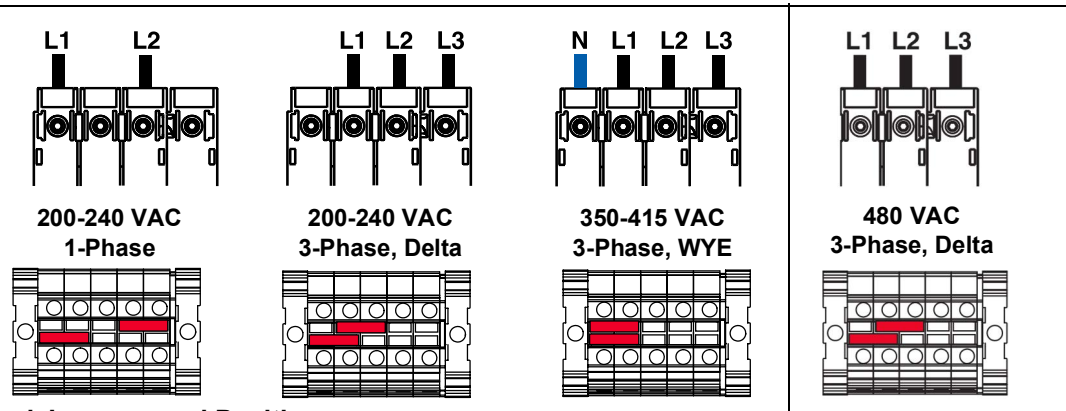

FIG. 7: Terminal Jumpers and Positions
4. Connect the ground wire to ground terminal (GT).
5. Connect the power cord as shown (see FIG. 7). Gently pull on all connections to verify that they are properly secured.
6. Tighten strain relief (SR).